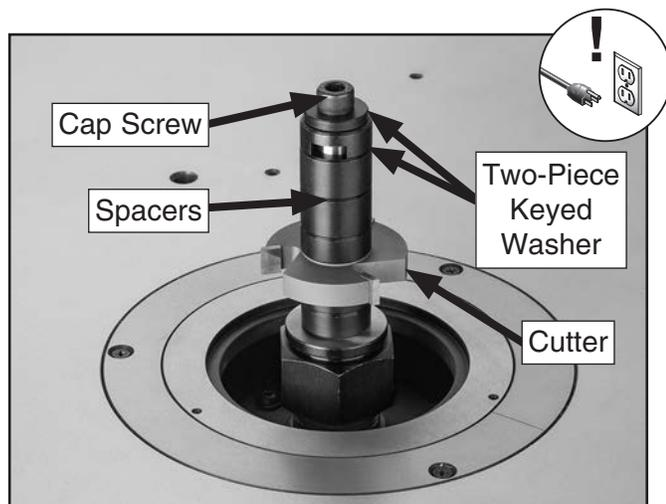

Figure 26. Cutter and fasteners installed.
6. Place the corresponding spindle two-piece keyed washer above the cutter and tighten the cap screw (see **Figure 26**).